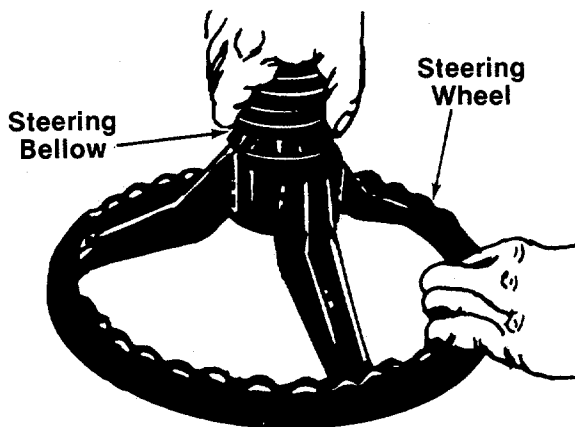

FIGURE 5.—Models 811, 823, 825, 827, 833, 835 and 837
- Models 811, 823, 825, 827, 833, 835 and 837 only:** Attach the plastic steering bellow to the steering wheel as shown in figure 5.